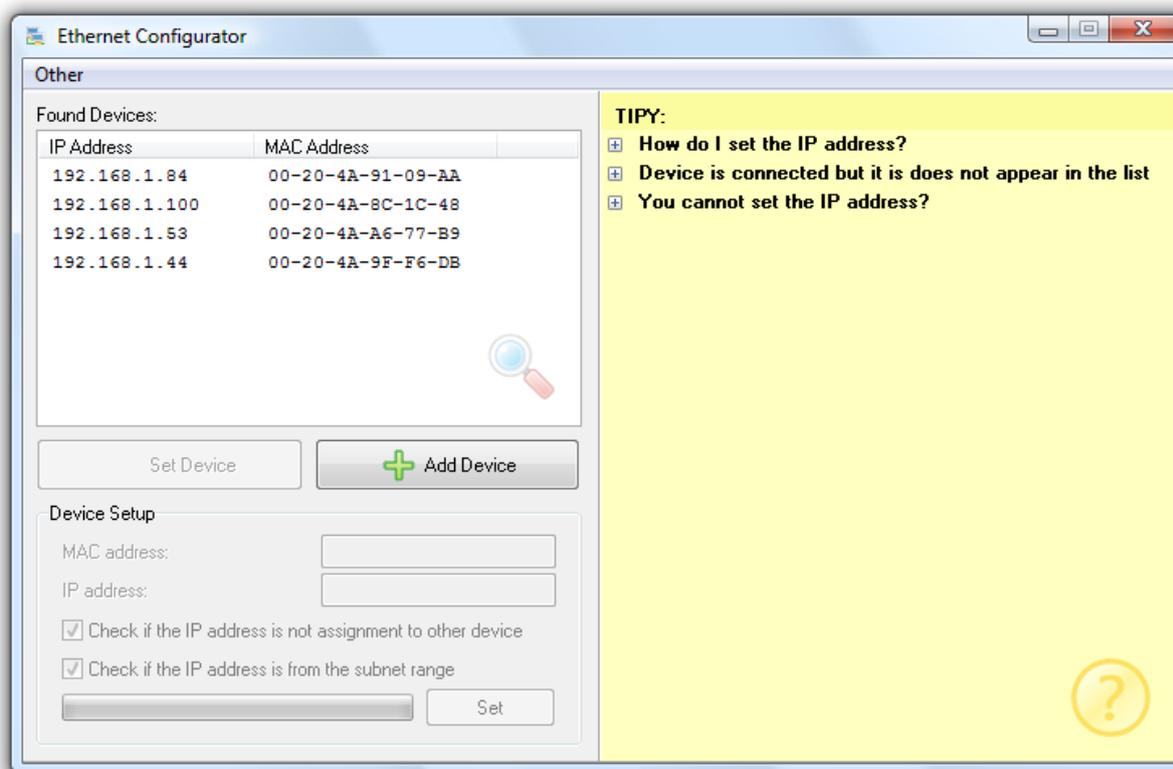

Fig. 6 – main window of EthernetConfigurator
- 3) A window that is shown in Fig. 6 will appear. (Your device will probably NOT be visible in the list of found devices on the left, if your network does not have the same range as the device.)